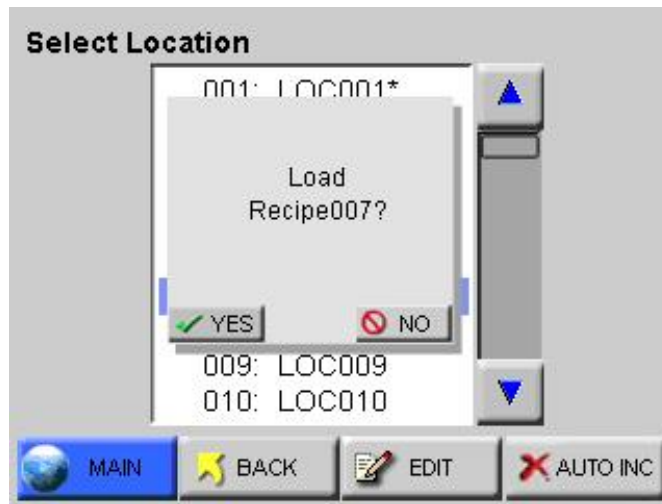

Figure 6-71 Location – Load Recipe
- When selecting a location with a recipe, the user is provided with the option of loading the recipe as shown in Figure 6-71. If the user chooses not to load the recipe, the location can still be used with the current settings.